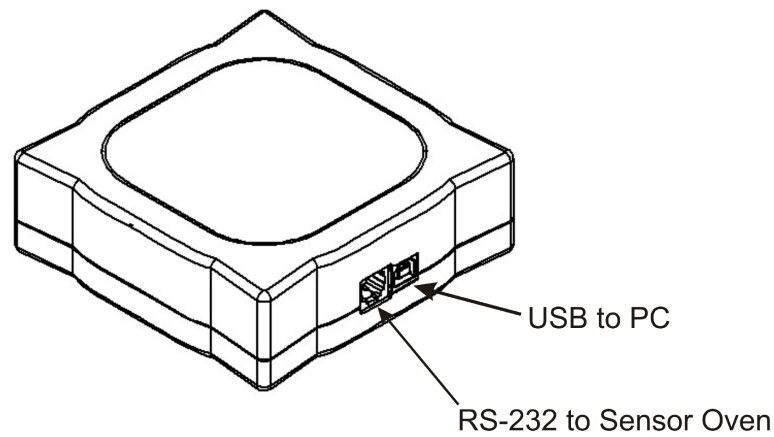
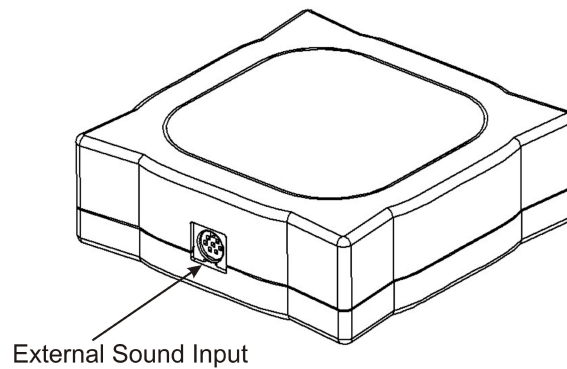

Figure 6: USB Interface to PC and Sensor Oven
Figure 7: USB Interface - Sound Sensor Input
10. Computer USB Interface ( USBI ) Figure 6 and Figure 7	Contains the matching wireless connection to the HUB , and connects to the computer via USB to transfer data to the computer software. Also provides an RS-232 connection to the optional Skin Sensor Oven.